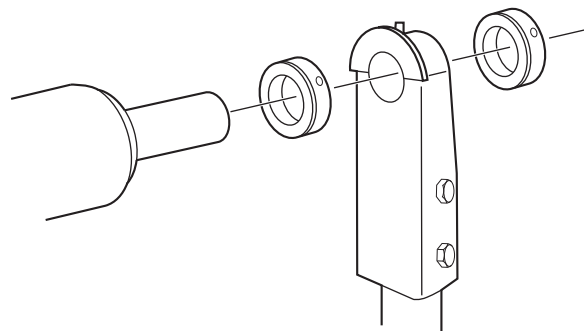
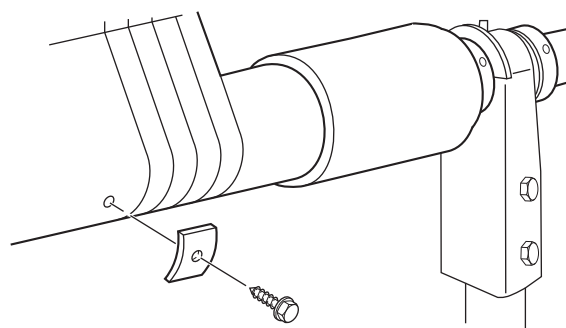

Figure 19
Figure 20
11) See Figure 19 Slide the shaft collar (5) and the rear swing-arm onto the adapter shaft at the rear of the trailer. Re-check the pivot box face for plumb. Place the shaft collar (5) 1/4" from the swing-arm bushing and tighten.
12) Slide another shaft collar (5) onto the adapter shaft. Position it 1/4" away from the swing-arm bushing and tighten.
14) See Figure 20. While the roll-up bar is hanging over the side rail, use the self-tapping screws (11) and tarp clamps (6) to secure the tarp to the roll-up bar. Install a tarp clamp (6) at each end, then equally space and install the remaining clamps.